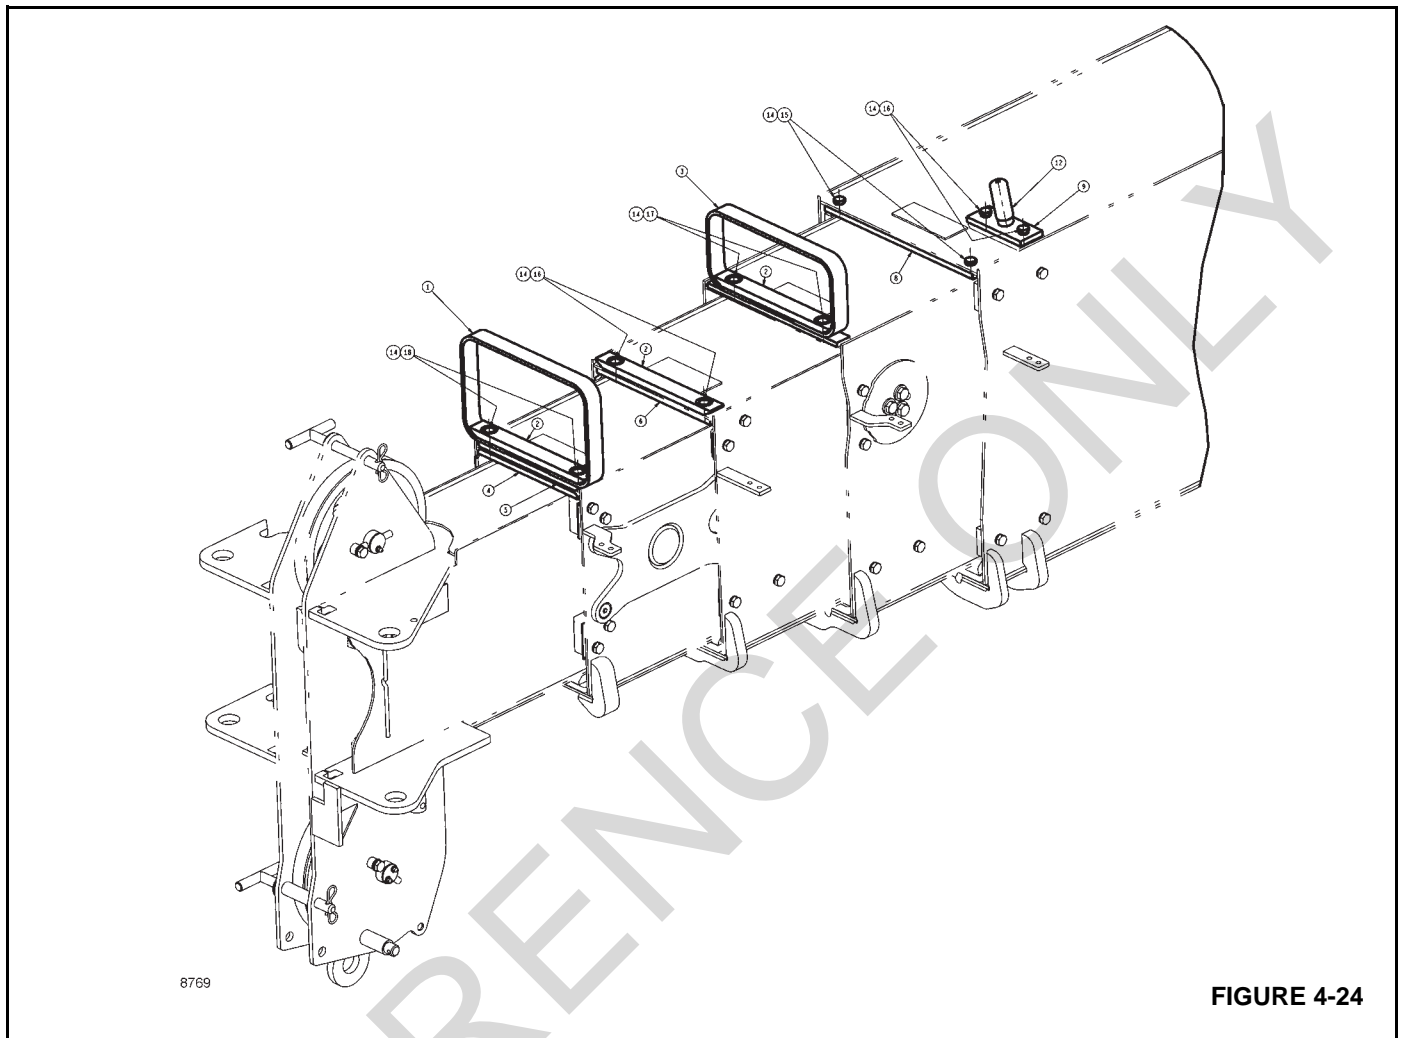
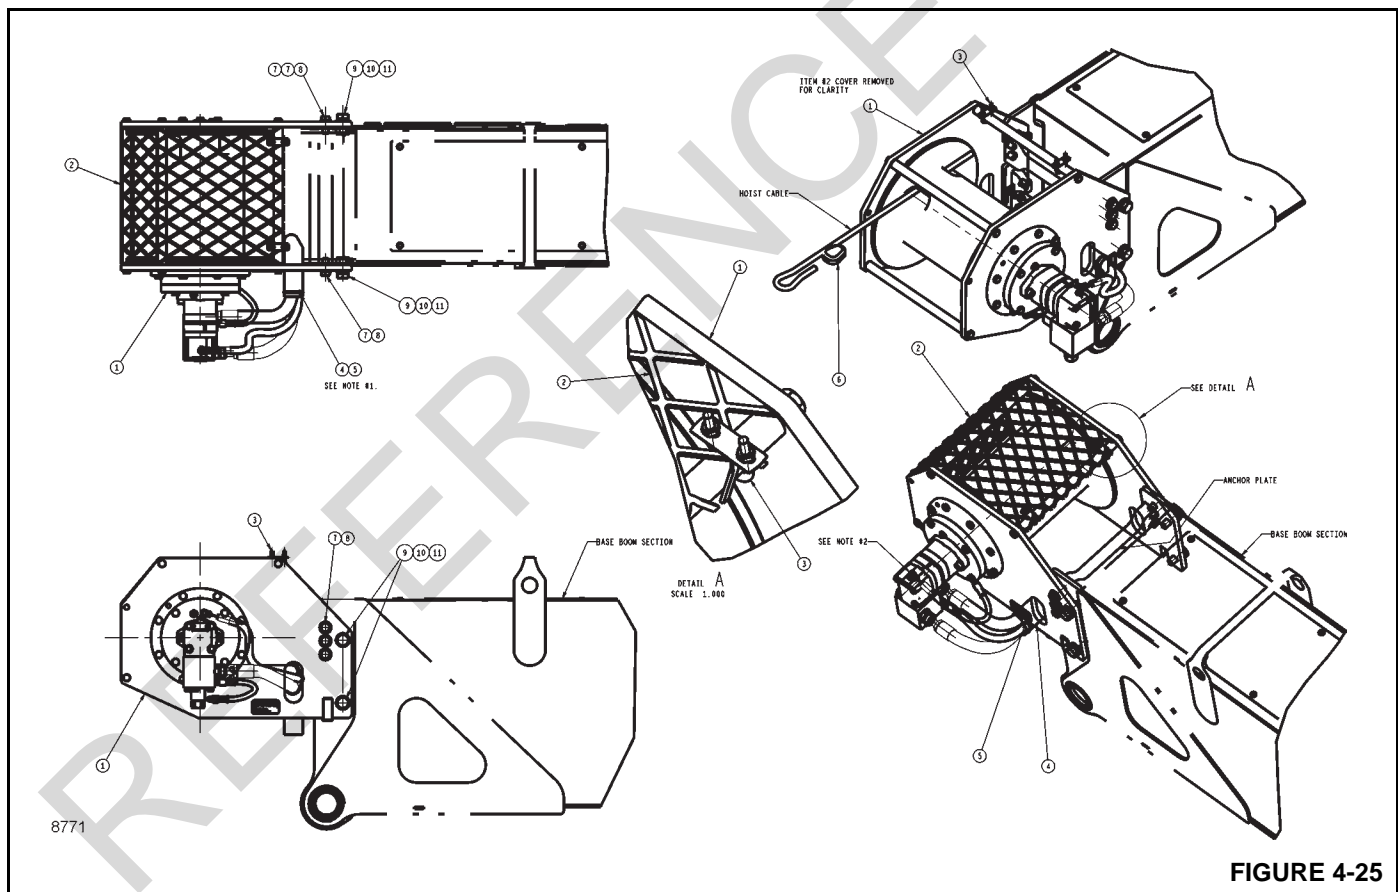

FIGURE 4-24
FIGURE 4-25
3. Install cable (97) in lower rear anchor point with screws (148).
4. Install wear pad (25) at rear outside of section 5 with screws (18) and Loctite 243.
25. Assemble rear top wear pads (10) and screws (126) to install at rear of section 4 with cam plates (32)/plates (9)/brackets.
- NOTE:** Be sure cables (96) follows in the grooves in the front lower inside section 3.
28. Slide sections together leaving about 2 ft extended. 2 ft of cable (96) will be hanging down.
31. Install top retainer plate (6, Figure 4-24) inside top.
32. Install top wear pad (2) with bolts (16) and lockwashers (14).
64. Install top retainer plate (7, Figure 4-24), cable retainer loop (3) and wear pad (2), with bolts (17) and lockwashers (14).
76. With top wear pads (10) in rear pre-assembled.
78. Install lower/bottom wear pad assembly plate (60) with wear pads (20) secure with bolts (149).
79. Install top front retainer bar (8, Figure 4-24) with lockwashers (14) and screws (15).
81. Install bottom side wear pads (11) and shims (45 and 46) as required. Secure with lockwashers (132) and bolts (143).
82. Pre-adjust cable nuts and washers on cable (96) lower front of section 1.
83. Install cable anchor weldment (9, Figure 4-24) to top front of section 1 with bolts (16) and lockwashers (14). Install cable protector (12).
86. Install cylinder anchor plate to rear of section 1, secure with bolts (155), washers (125), and spacers (74).
87. Install cable anchor plate (66) with the top into the notches in base. Install cables (95) into anchor plate with flatwashers (125) and nuts (136).
89. Mount hoist (1, Figure 4-25) aligning mounting over lugs.
90. Secure with two bolts (9), lockwashers (10), and flatwashers (11) on each side in section 1.